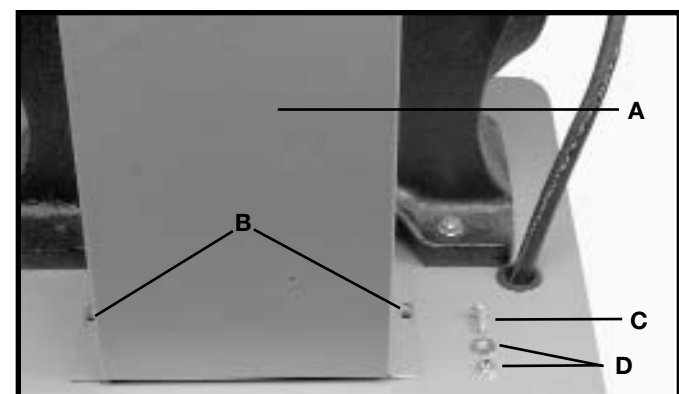

Fig. 10
2. Attach the belt and pulley guard (A) to the top of the stand (B) Fig. 10 using the two 1/4-20 x 1/2" hex head screws (C) Fig. 10 through the top of the guard and the stand, and attach those to 1/4" washers and 1/4-20 nuts (D) Fig. 10 from the bottom.